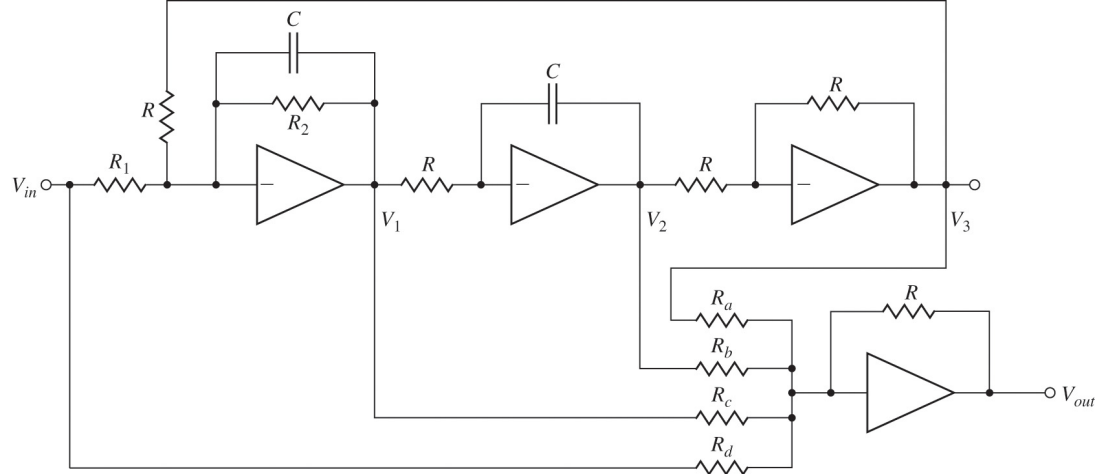

Fig. 2.55 Op-amp biquad
18. The very flexible circuit shown in Fig. 2.55 is called a biquad because its transfer function can be made to be the ratio of two second-order or quadratic polynomials. By selecting different values for R_a , R_b , R_c , and R_d the circuit can realise a low-pass, band-pass, high-pass, or band-reject (notch) filter.
- (b) Using the MATLAB comand **step** compute and plot on the same graph the step responses for the biquad of Fig. 2.55 for $A = 2$, $\omega_n = 2$, and $\zeta = 0.1, 0.5$, and 1.0 .
19. Find the equations and transfer function for the biquad circuit of Fig. 2.55 if $R_a = R$, $R_d = R_1$ and $R_b = R_c = \infty$.